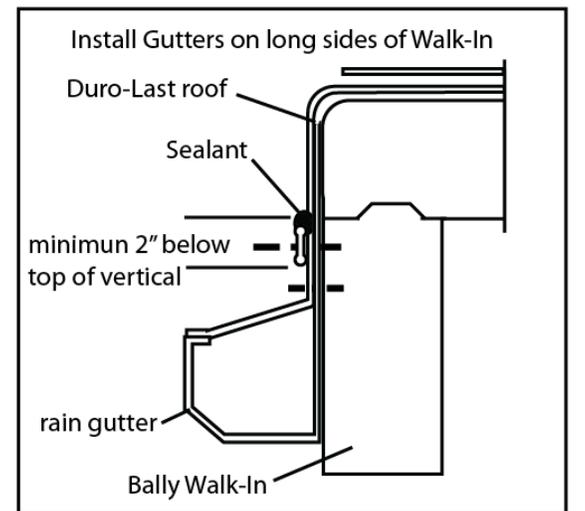
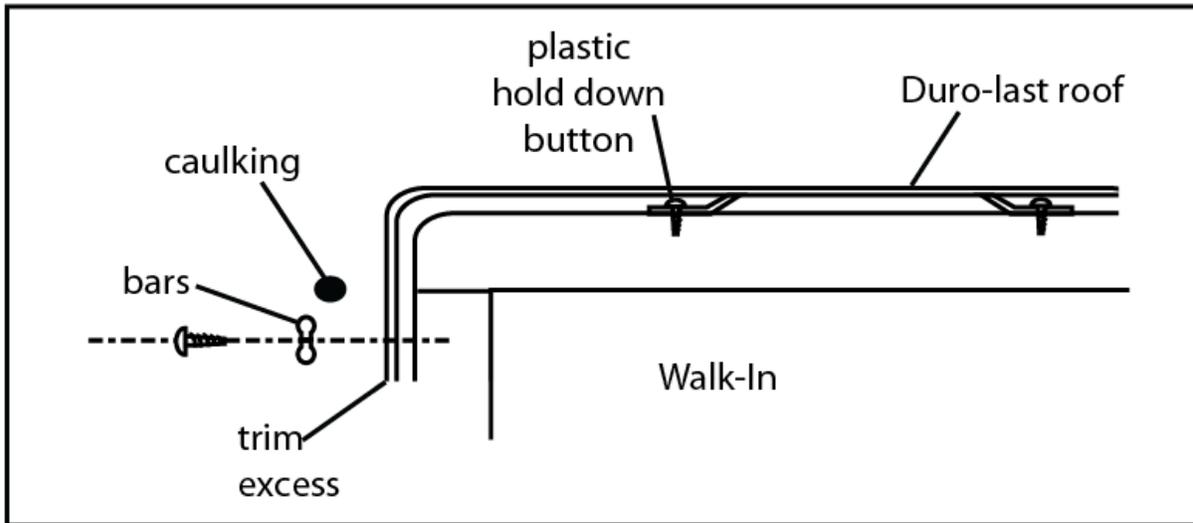

Figure 5
Figure 6
4. After installing roof material, fasten edges using termination bars and fasteners provided. See Figure 5. NOTE: Fasten both short edges first. Fold corners and fasten roof edges on long sides last. See Figure 6.
- A. Trim excess material below bars. See Figure 5.
- B. Caulk top edge of bars with caulking furnished. See Figure 6.